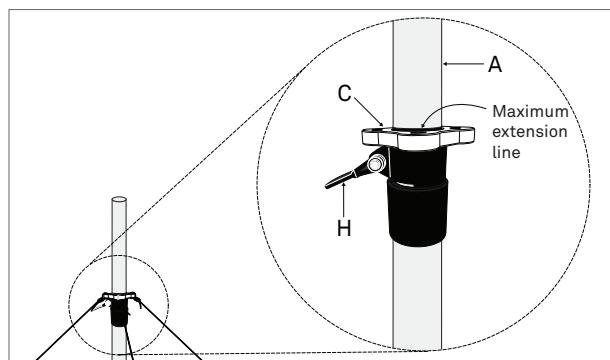

Figure 7 Locking lever (H)
1. Attached the sensor to the upper part of the mast (E). Refer to the sensor user manual installation instructions for details on how to attach the sensor.
2. Lift the locking lever (H) by pulling it up (Figure 7).
3. Raise the top portion of the mast (E) to the desired height.
NOTE: The height should be no higher than when the maximum extension line is level with the guy rope ring (G) (Figure 7). If the mast (E) is raised higher than it is supposed to be, the top portion of the mast (E) will be unstable.
4. Lower locking lever (H).